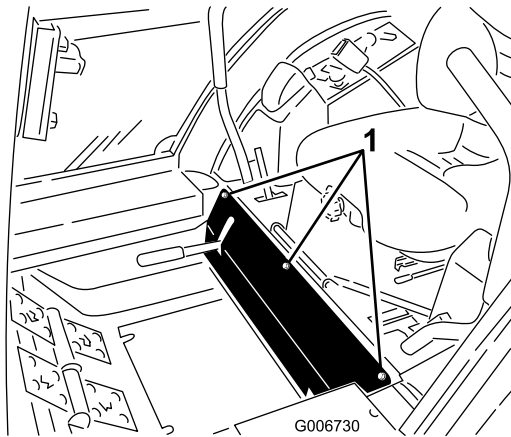

Figure 75
3. Remove the bolts securing the front panel and remove the panel (Figure 75).